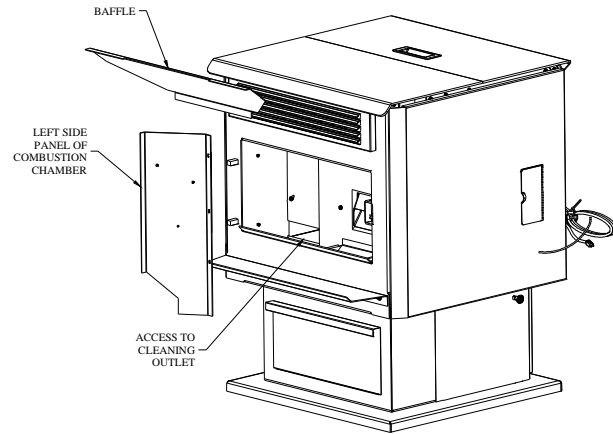

FIGURE 22
- Chamber walls:** Periodically, you must vacuum the ashes that may have accumulated on the main walls of the combustion chamber. START BY REMOVING THE DECORATIVE MASONRY-LIKE PANELS, WHICH ARE SIMPLY HELD BY SCREWS. Scrape off ashes. Use a vacuum if necessary. There is also a cleaning outlet located behind the left side panel of the combustion chamber. Remove this panel using a screw driver. You will notice a small rectangular cleaning outlet. Inspect behind this outlet (see figure 22) Insert the vacuum tip through the cleaning outlet and clean thoroughly. REPEAT THIS OPERATION AT LEAST ONCE PER TON OF PELLETS BURNED UNTIL YOU ARE FAMILIAR WITH HOW ASHES ACCUMULATE WITH YOUR OPERATING PRACTICES.